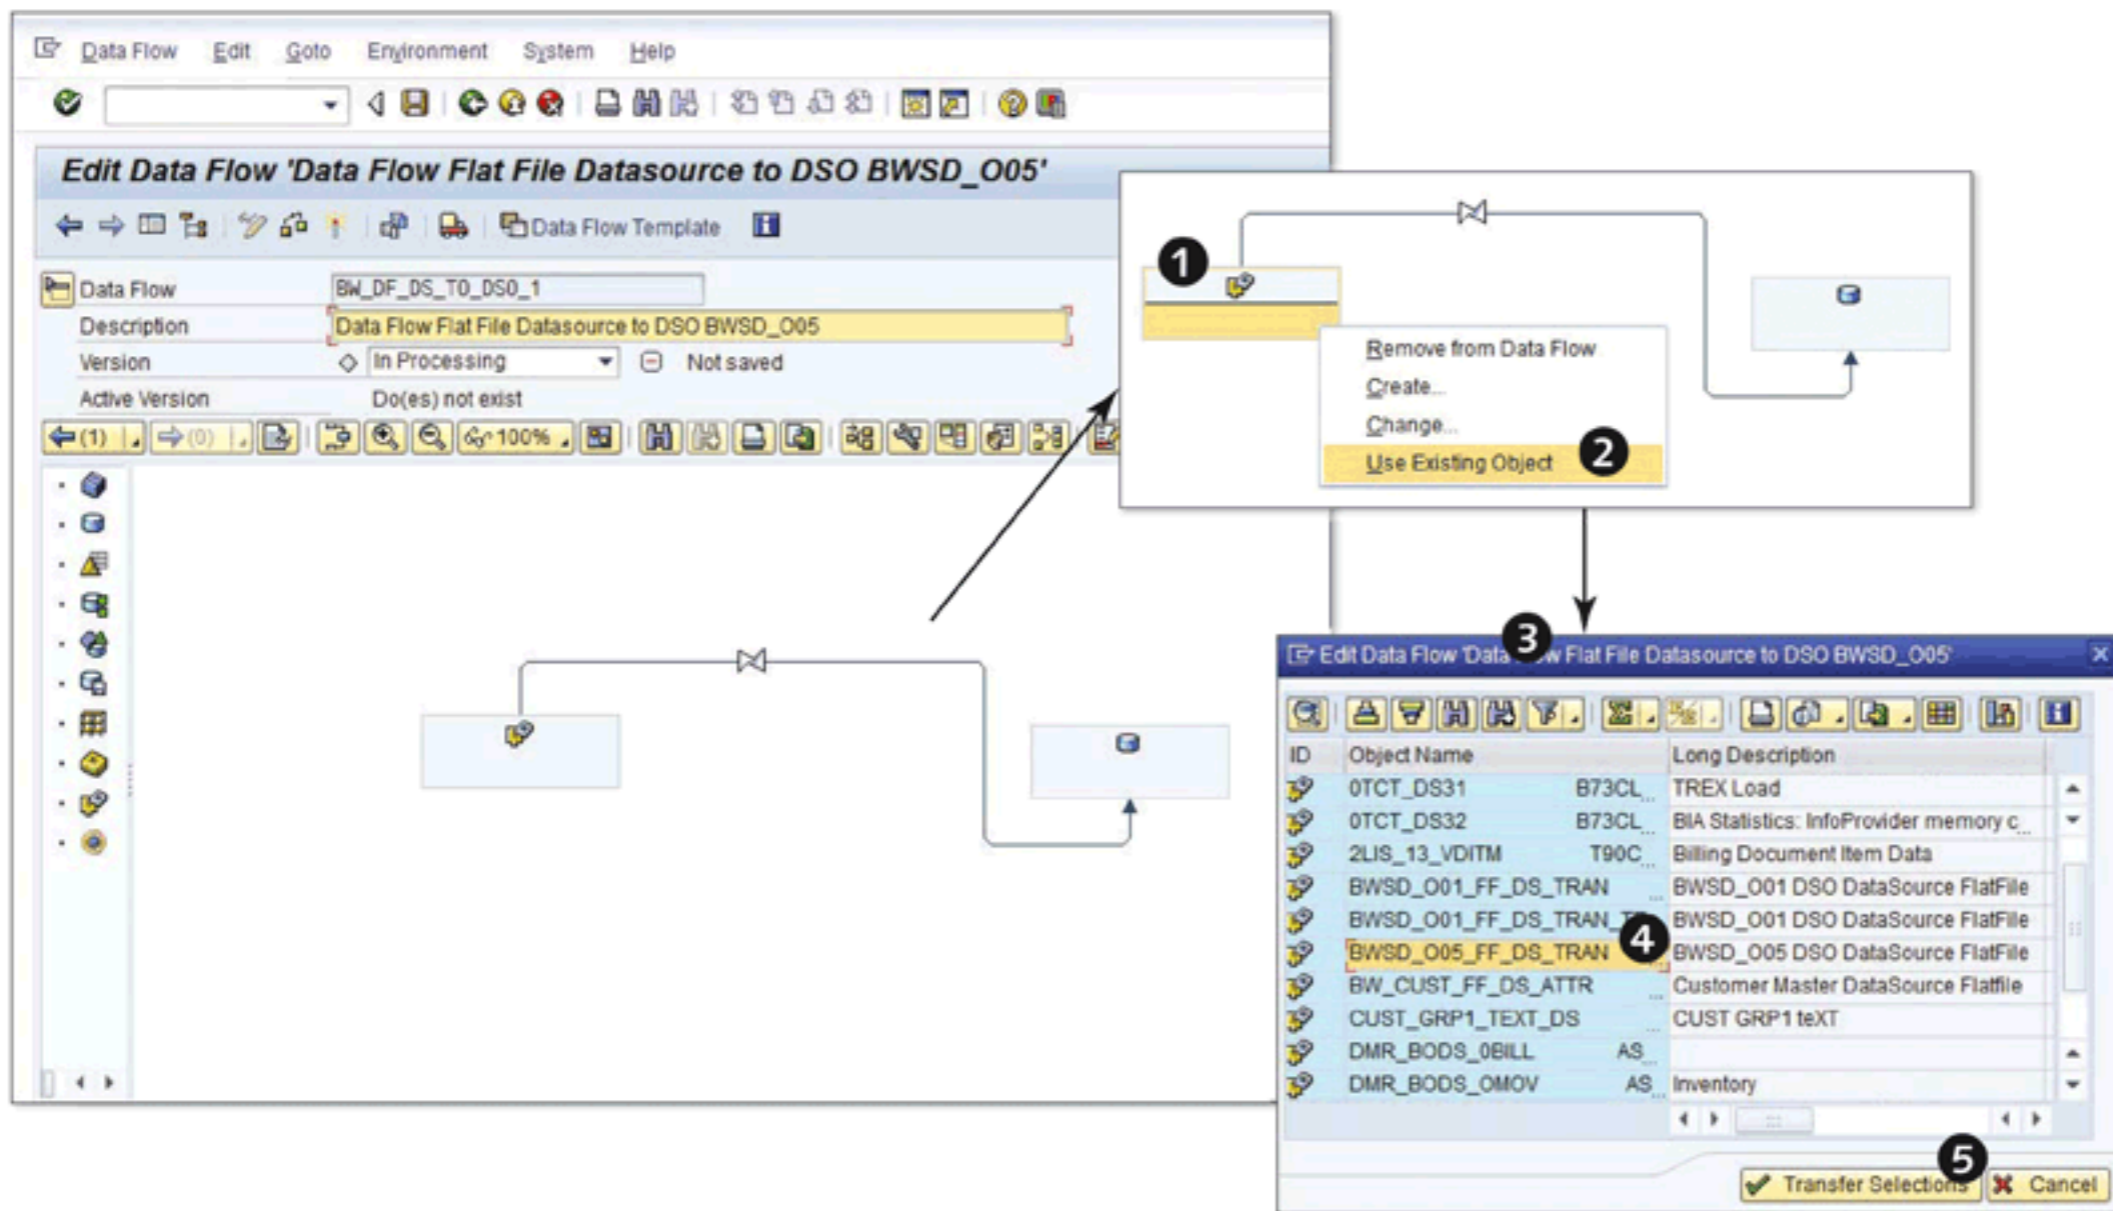
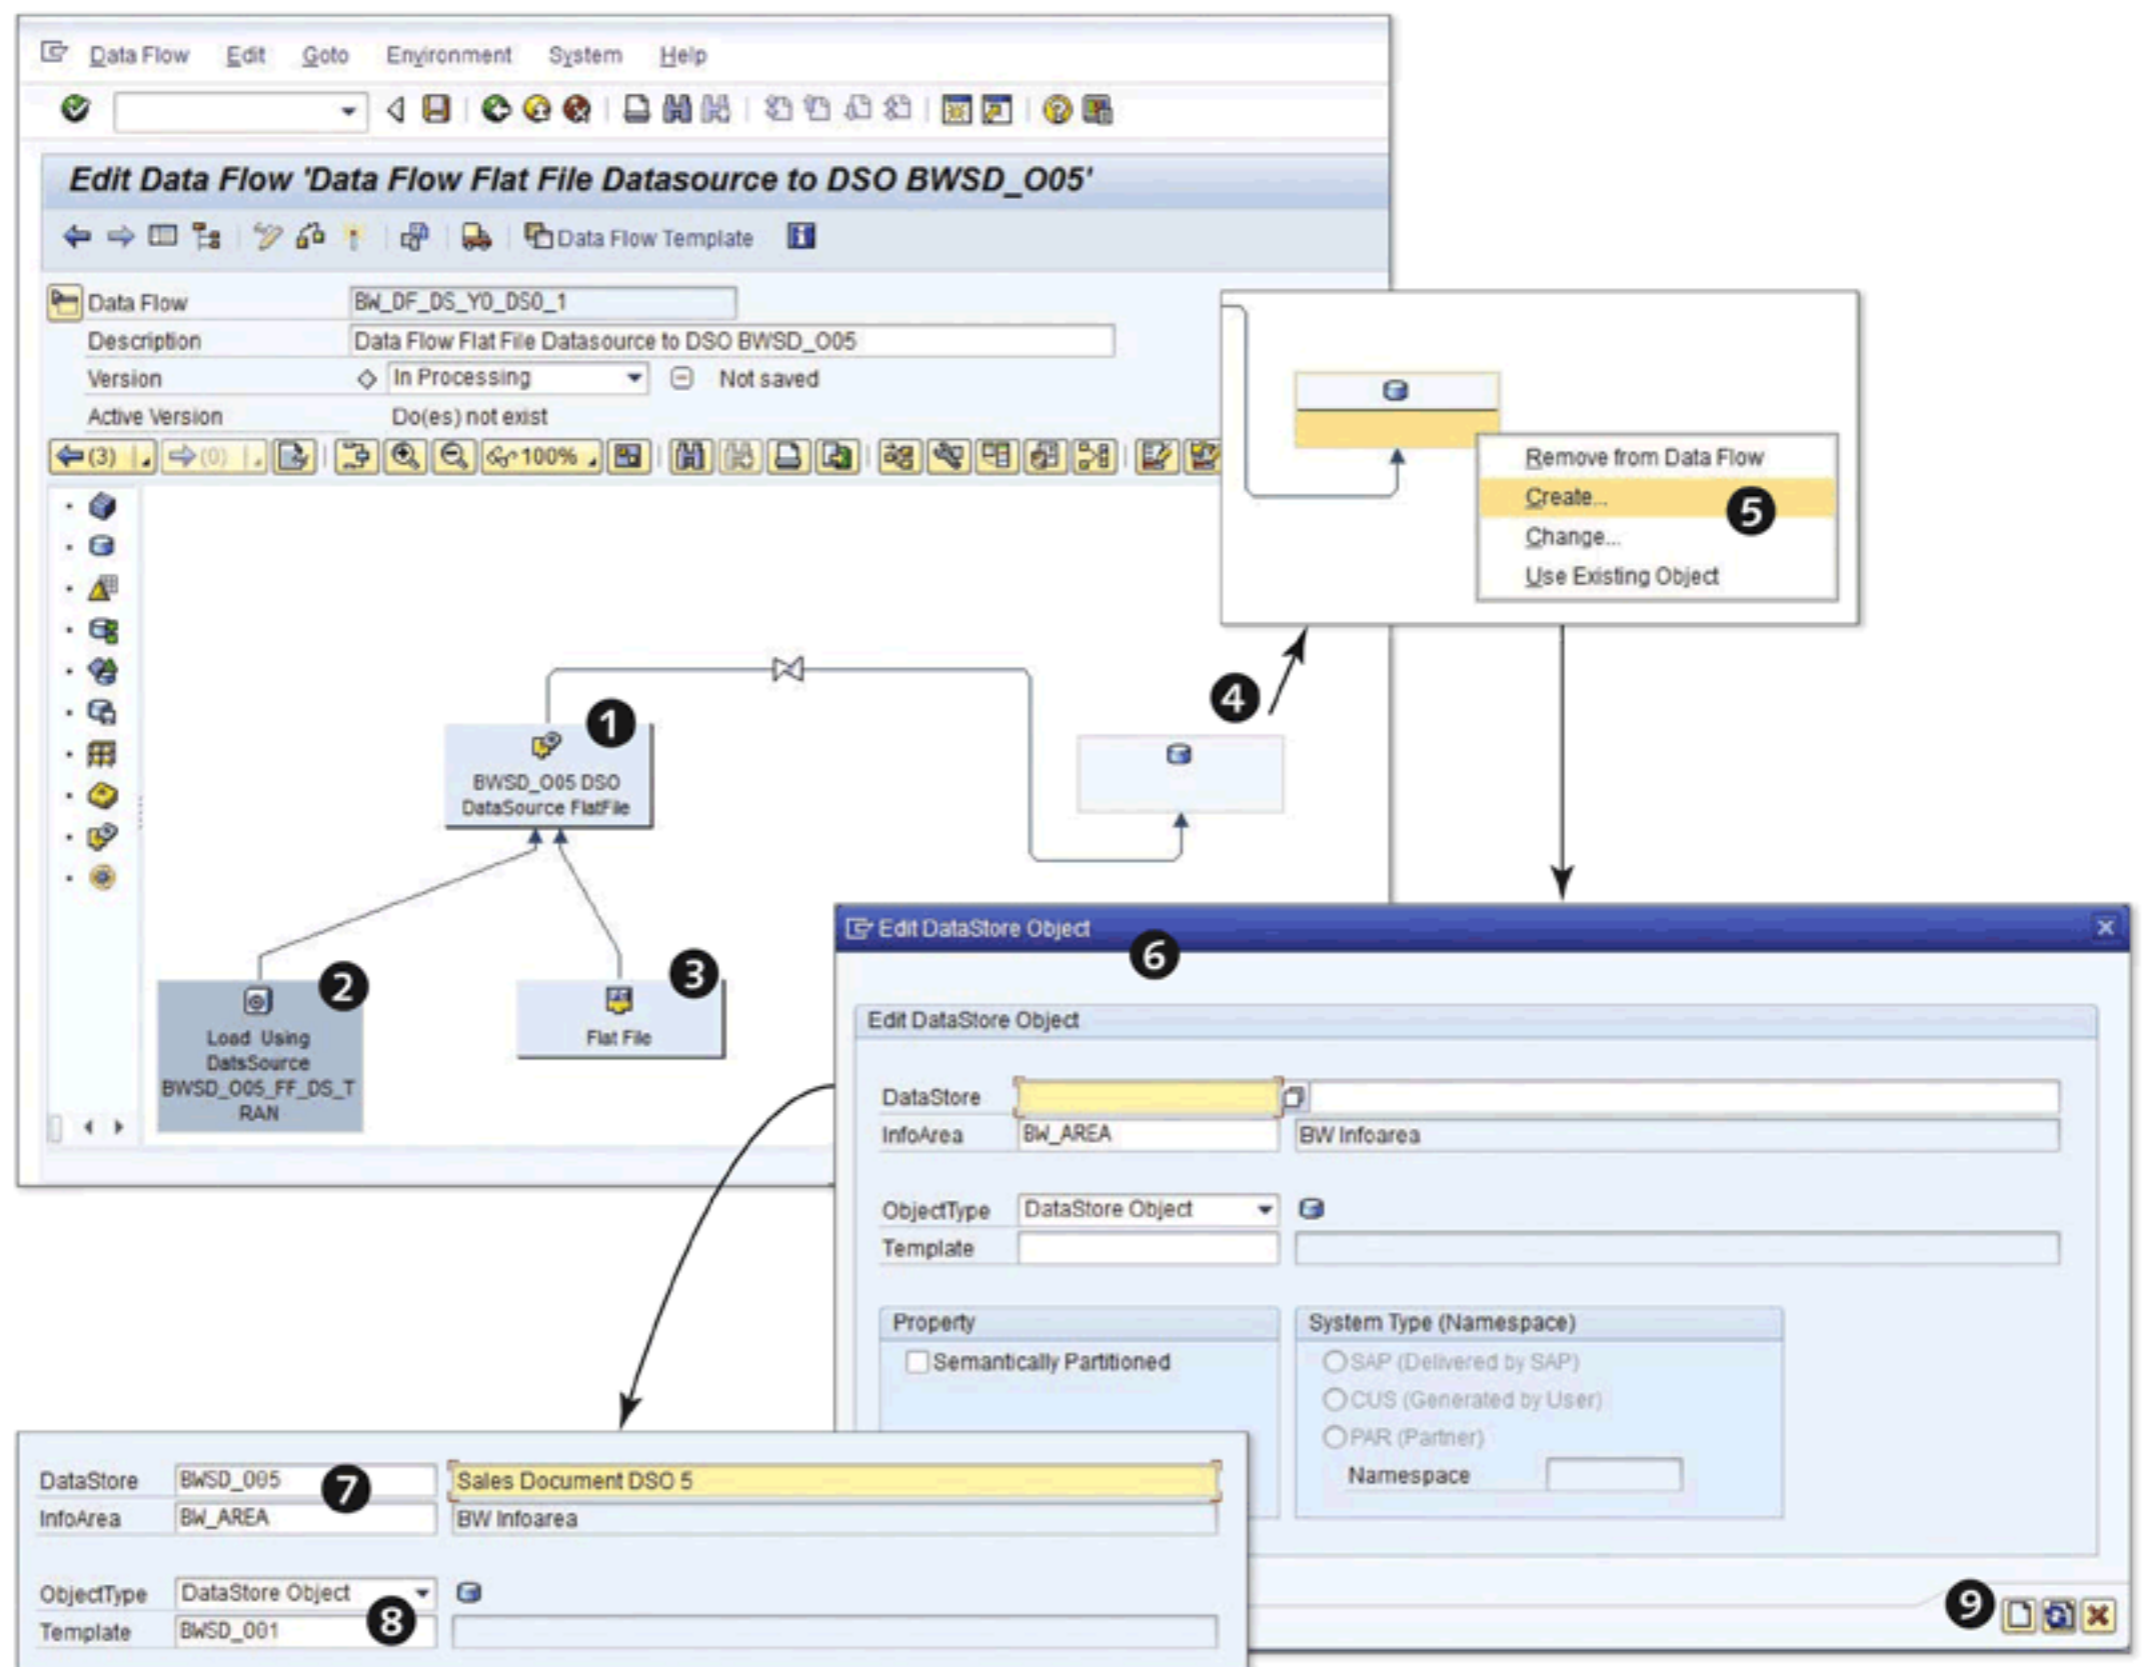
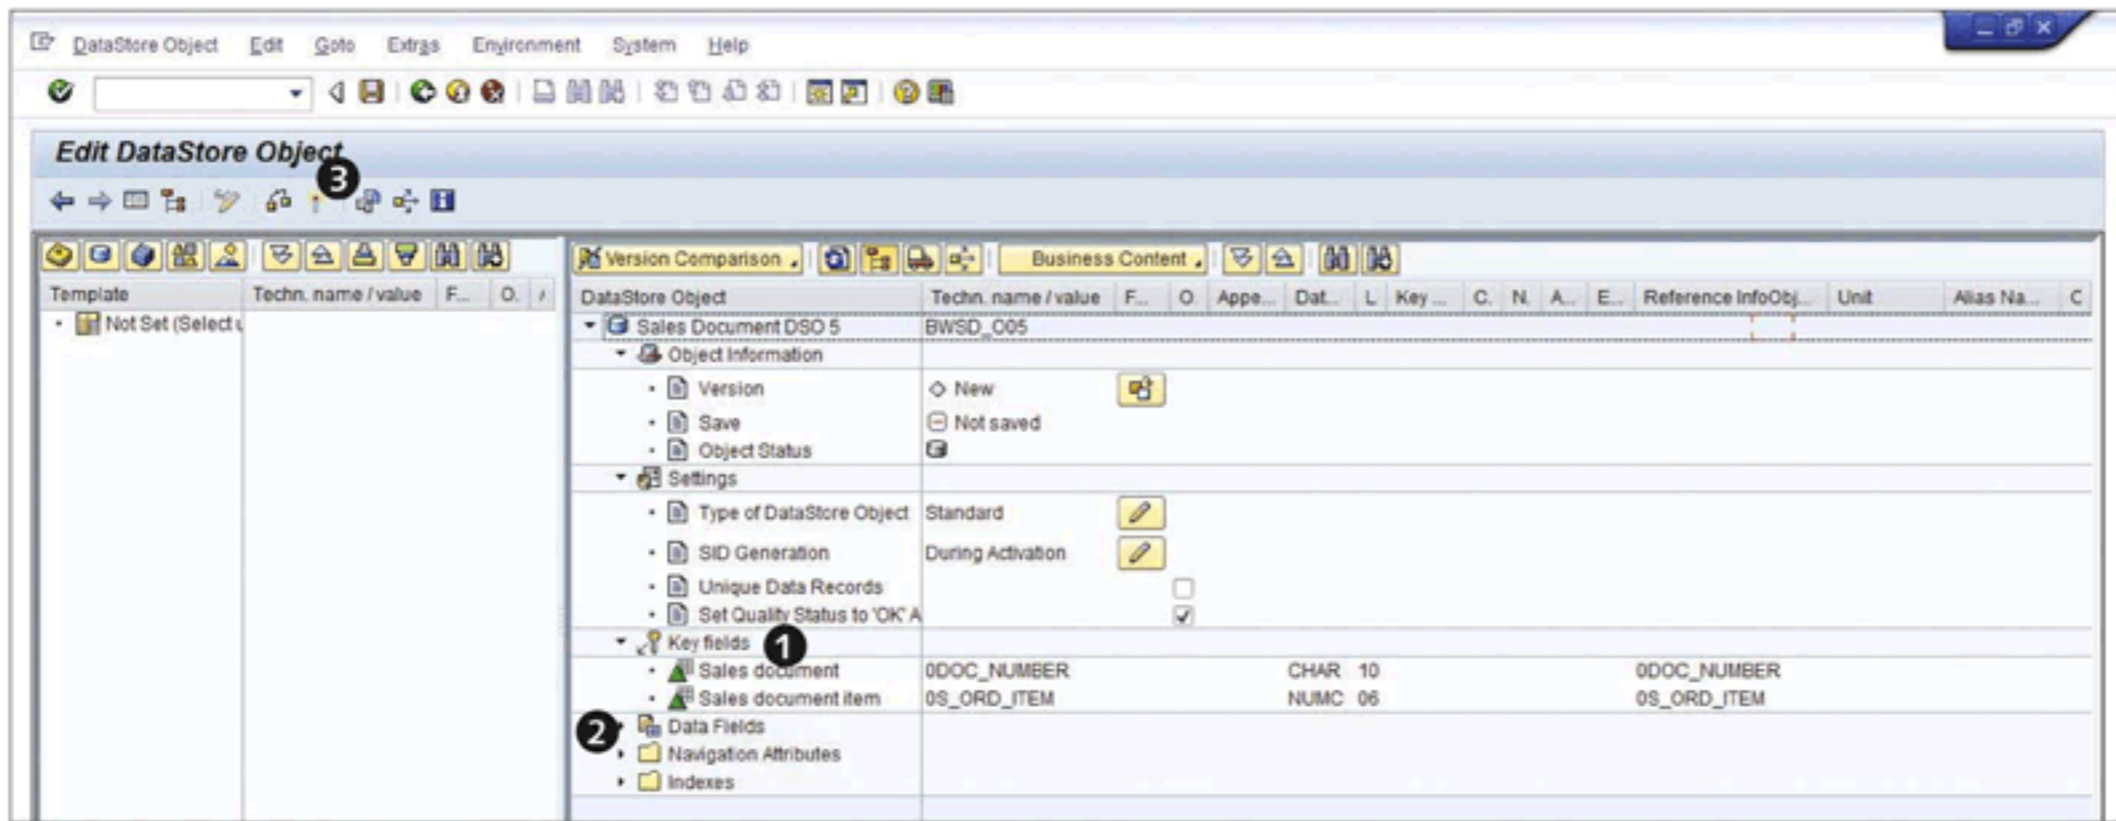
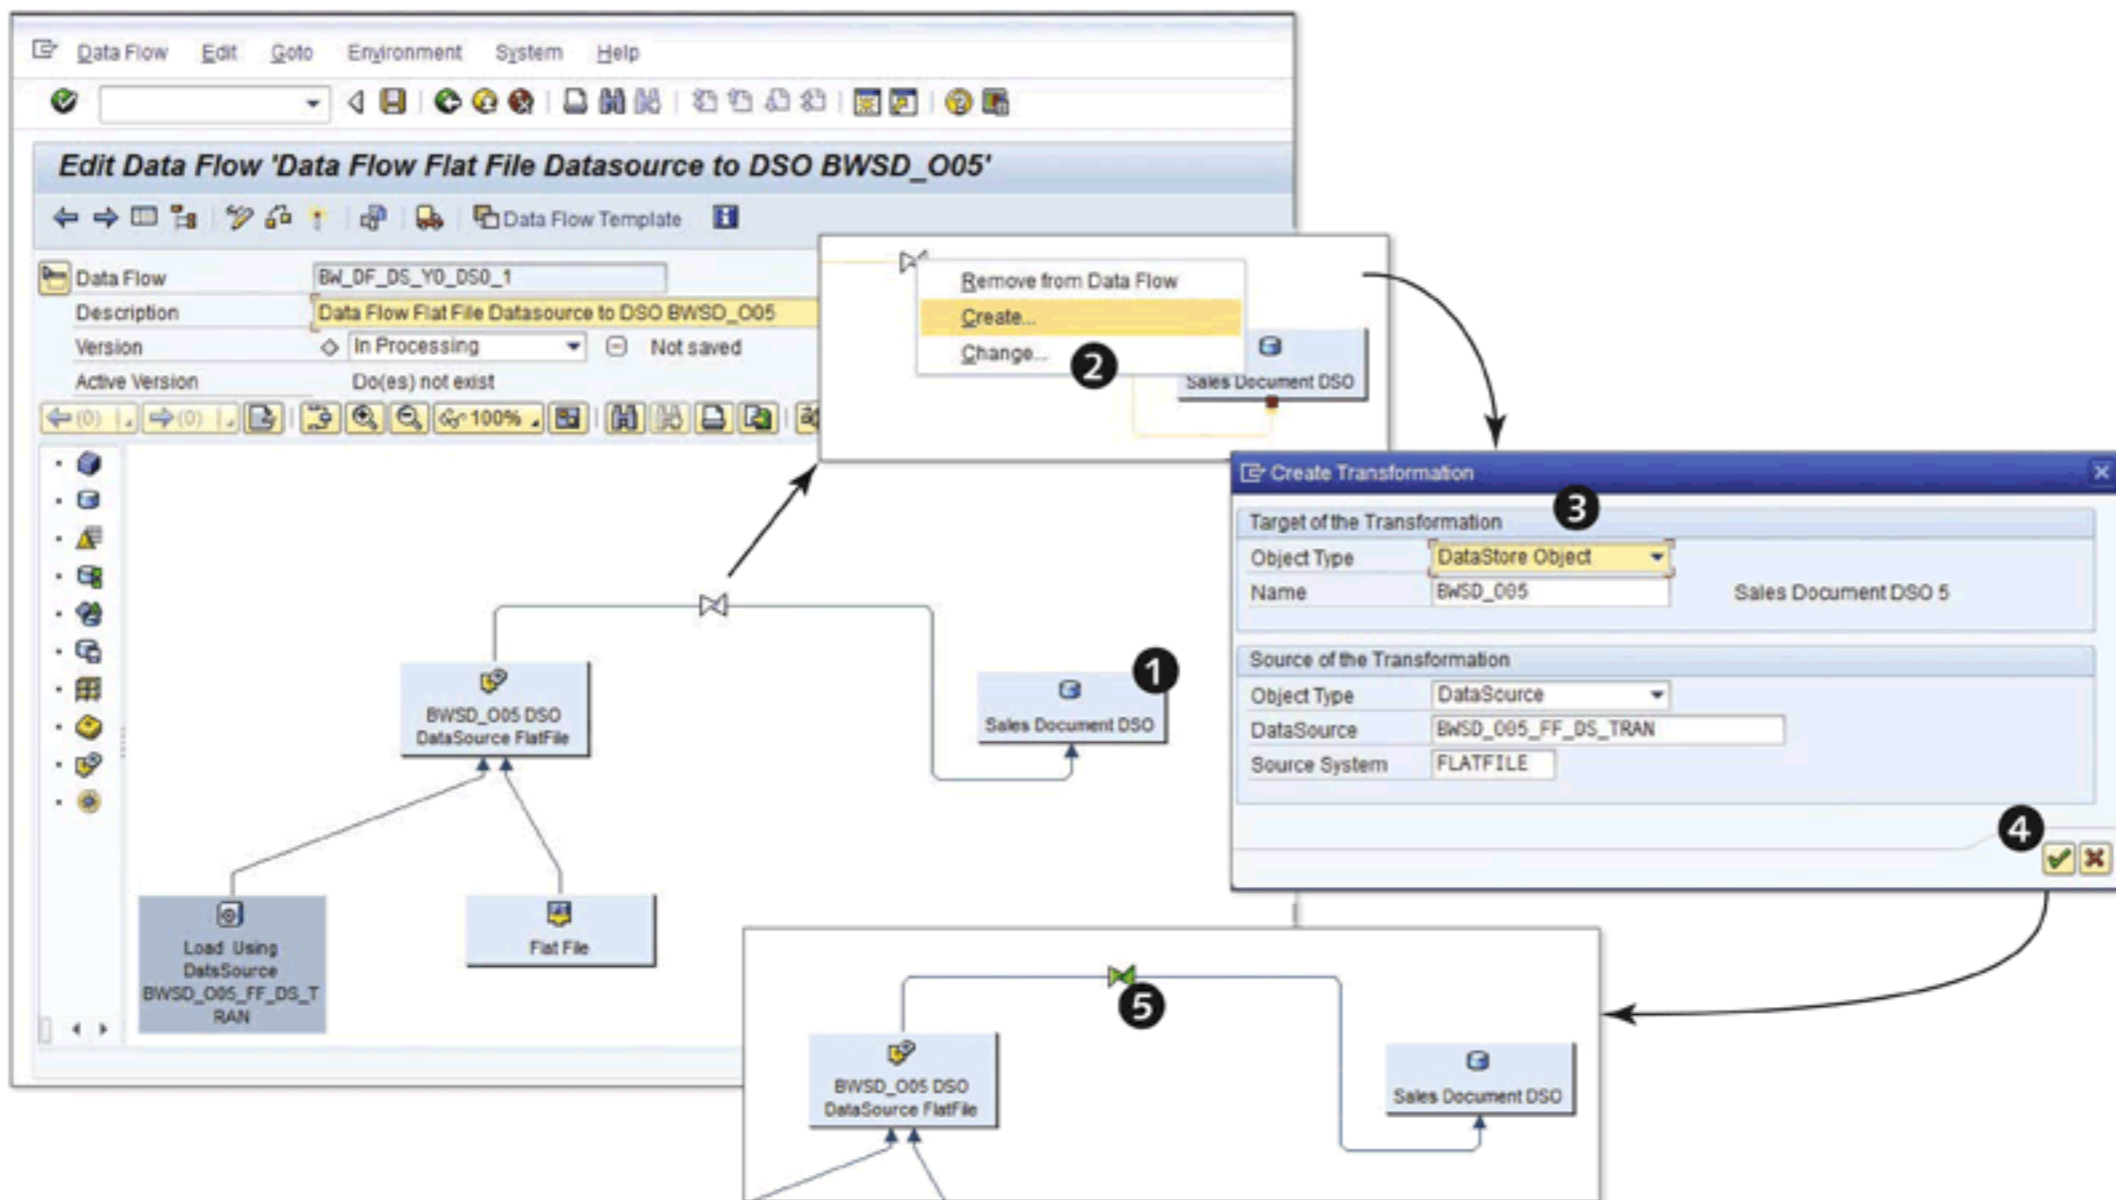

Figure 7.98 Choose DataSource
Figure 7.99 Create and Assign a DSO
Figure 7.100 Edit Assigned DSO
Figure 7.101 Assign Transformation to Data Flow
First select the DSO (❶ of Figure 7.98) from the context menu and select the USE EXISTING OBJECT option (❷ of Figure 7.98). In our example, we use the existing DataSource BWSD_O05_FF_DS_TRAN (which is a copy of DataSource BWSD_O01_FF_DS_TRAN). This action opens the EDIT DATA FLOW pop-up, as shown in ❸ of Figure 7.98. This pop-up displays all of the DataSources. Select DataSource BWSD_O05_FF_DS_TRAN (❹ of Figure 7.98) and click on the TRANSFER SELECTION button (❺ of Figure 7.98). This action binds persistent object BWSD_O05_FF_DS_TRAN to the DataSource object of the DFT, as shown in ❶ of Figure 7.99.
As shown in ❶, ❷, and ❸ of Figure 7.99, when binding DataSource BWSD_O05_FF_DS_TRAN, the system also adds attached objects to the DataSource. Here the attached objects are INFOPACKAGE (❷ of Figure 7.99) and SOURCE SYSTEM (❸ of Figure 7.99). With this, we have bound the existing object in the DFT.
Now let's use another method to bind a persistent object to the DSO. Select the DSO (4 of Figure 7.99), then select CREATE (5 of Figure 7.99) from the context menu. This action brings up the EDIT DATASTORE OBJECT screen (6 of Figure 7.99).
Enter "BWSD_O05" as the DSO technical name with the description "Sales Document DSO 5" (7 of Figure 7.99). Also select DATASTORE OBJECT as the OBJECTTYPE and BWSD_O01 as the TEMPLATE (8 of Figure 7.99). Click on CREATE (9 of Figure 7.99) to proceed. This brings up the EDIT DATASTORE screen, as shown in Figure 7.100.
Because we have used BWSD_O01 as the template while creating DSO BWSD_O05, all of the settings of BWSD_O01 are displayed (1 and 2 of Figure 7.100). Without changing any settings, activate DSO BWSD_O05 by clicking on the ACTIVATE icon (3 of Figure 7.100). Once the DSO is activated, use the BACK button to come back to the DATA FLOW EDIT screen, which is shown in Figure 7.100. The newly assigned DSO BWSD_O05 is now visible in the data flow (1 of Figure 7.101).
The next step is to assign a transformation to the data flow. To do this, select TRANSFORMATION, then select CREATE from the context menu (2) of Figure 7.101. This action opens the CREATE TRANSFORMATION box (3) of Figure 7.101, which contains all of the required information; for example, SOURCE OF THE TRANSFORMATION and TARGET OF THE TRANSFORMATION. (Remember that we have already assigned persistent objects to both the source and the target.) Click on CONTINUE (4) of Figure 7.101 to proceed. The resulting screen is shown in 5) of Figure 7.101, along with the transformation.
With this, we have completed the creation of a data flow using the data flow template. Use the BACK button to come back to the main screen of the DWW, which is shown in Figure 7.101.